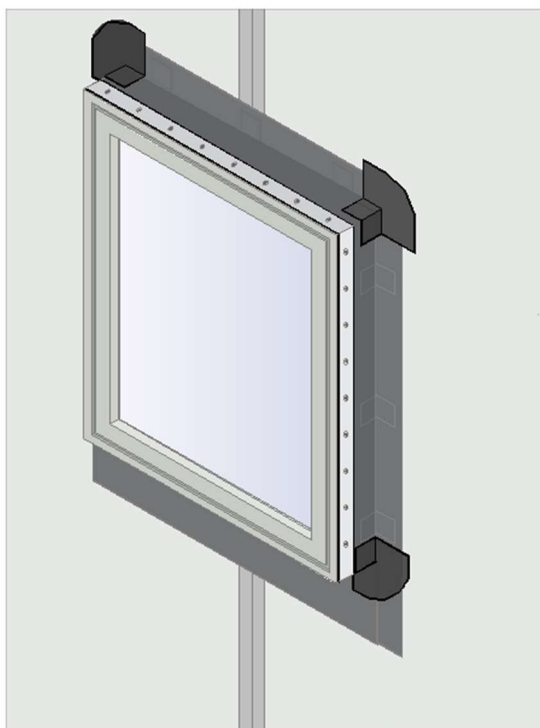

Figure 16
- A mechanically fixed metal clamping strip sealed with OT015 adhesive may be installed as an option to enhance the fixing of the membrane to the frame for reduced bond areas. (Figure 16). Should the bond area reduce to below 20 mm please consult Tremco CPG UK Ltd.